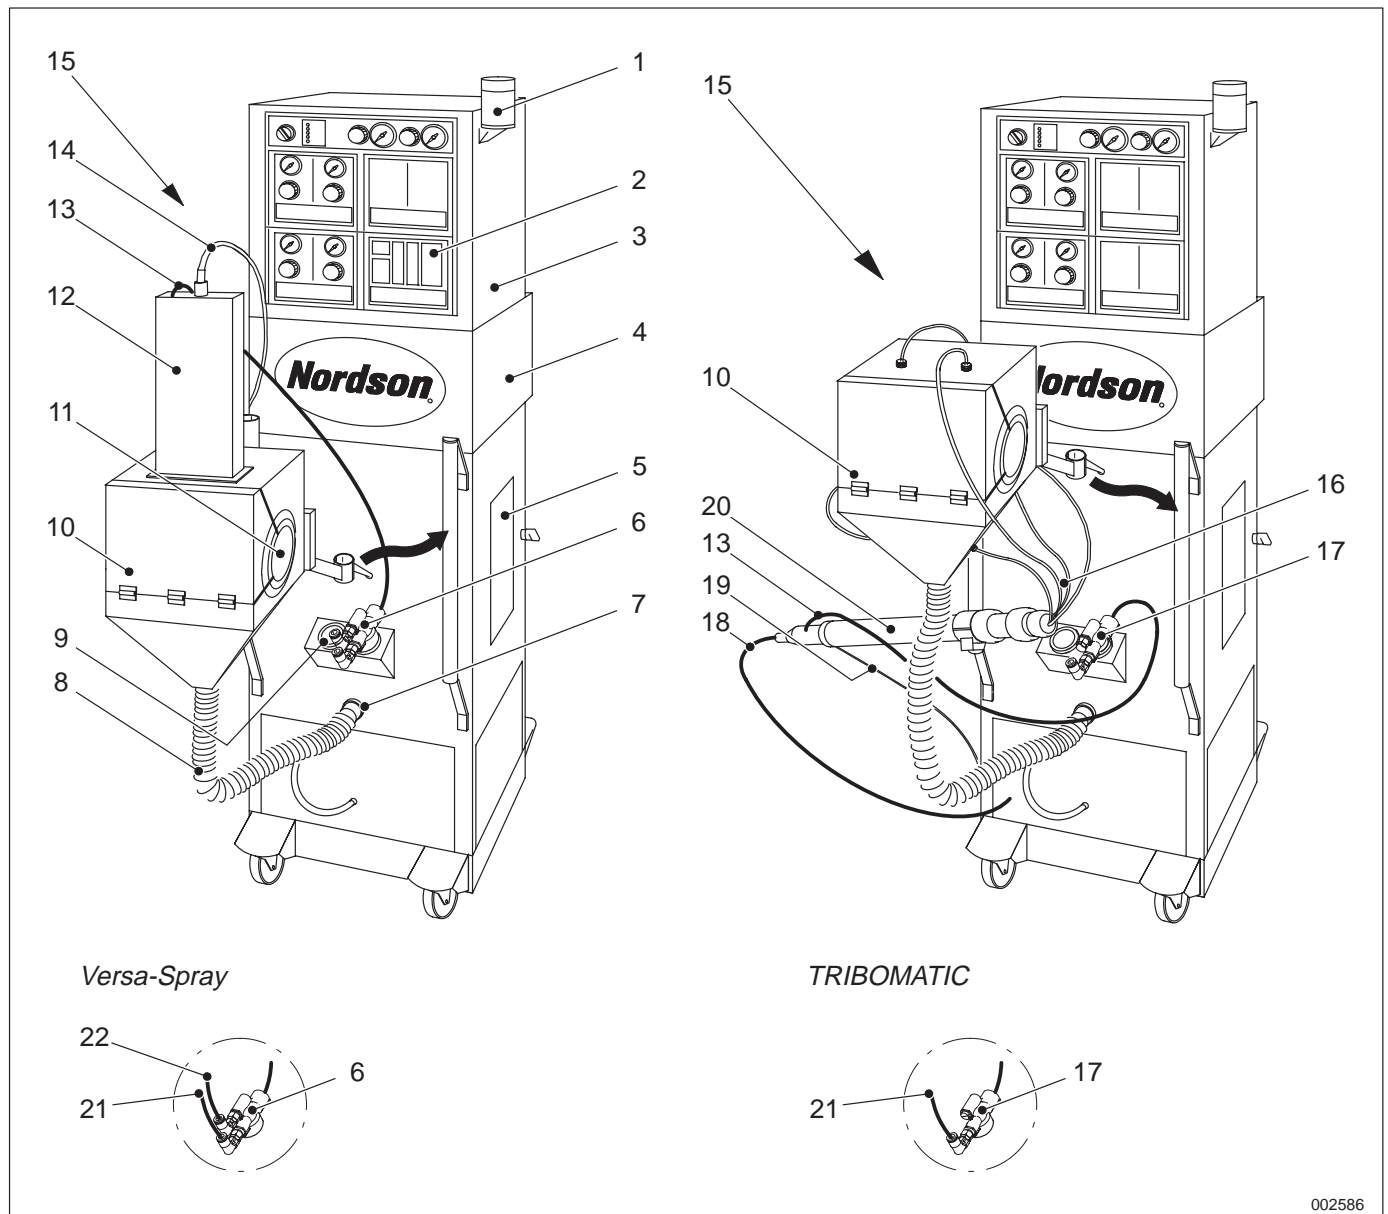

Fig. 1 Principle drawing
The powder is conveyed out of the hopper with a powder pump working on the Venturi principle. The pump (6, Fig. 1) has two compressed air connections: flow rate air (F) and atomizing air (A). The pressure of the flow rate air determines the quantity of powder sucked in. The powder/air mixture generated by the atomizing air is conveyed to the powder gun and charged there by a high voltage electrode. The charged powder particles find the grounded substrate and stick to it.
The powder (e.g.: Super Absorbent Powder) is conveyed out of the hopper with a powder pump working on the Venturi principle. The pump (17, Fig. 1) has a compressed air connection for the flow rate air (F). The pressure of the flow rate air determines the quantity of powder sucked in. The atomizing air and the powder come together at the diffuser of the TRIBOMATIC powder gun. The powder particles are charged by friction in the charge tube. The charged powder particles find the grounded substrate and stick to it.
When the spray chamber (10, Fig. 1) is opened during operation, the contact switch on the spray chamber causes the powder flow to stop and, with Versa-Spray, the high voltage supply to the powder gun to be interrupted.
When the door to the powder hopper (5, Fig. 1) is opened during operation, the contact switch on the door causes filter cleaning to be interrupted.
2. Attach spray chamber (10, Fig. 1) to the holders.
3. Attach powder recovery hose (8, Fig. 1) between the spray chamber and the pump *powder recovery* (3).